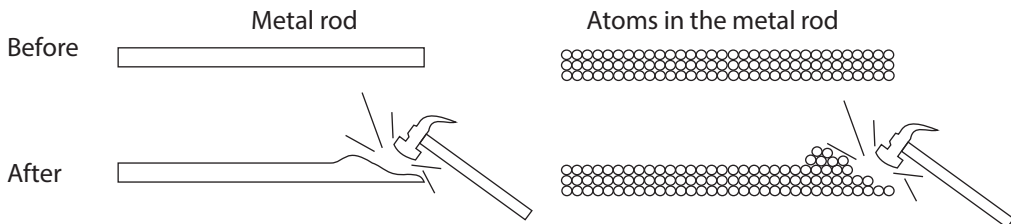

Fig. 4.11: Malleability in metals
- Most metals are also **malleable** i.e. they are capable of being hammered into thin sheets. The hammer exerts strong forces on the layers of atoms in the structure of the metal. Because of this property, metals can be bent and moulded into different shapes. This is illustrated in Fig. 4.11 below.